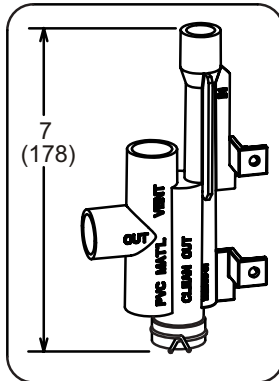

Figure 48. Trap / Drain Assembly Using 1/2" PVC or 3/4" PVC Cold End Header Box with 1/2" Drain Connection
3. Install the cap over the clean out opening at the base of the trap. Secure with clamp. See Figure 47 or Figure 48.
4. Install drain trap using appropriate PVC fittings, glue all joints. Glue the provided drain trap as shown in Figure 47 or Figure 48. Route the condensate line to an open drain. Condensate line must maintain a 1/4" downward slope from the furnace to the drain.